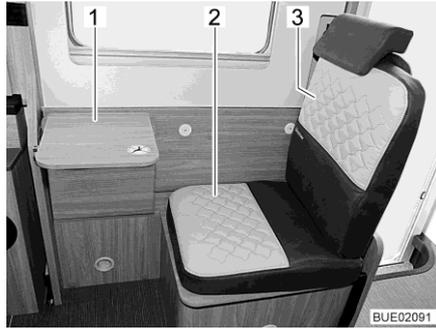
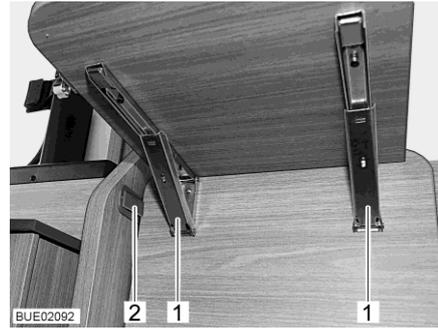

Fig. 27 Additional seat with folding table
Fig. 28 Catches on the folding table
- Attach the included seat cushion (Fig. 27,2) and the back cushion (Fig. 27,3).
- Swing the divan's front part upwards until it engages in the plastic catch (Fig. 28,2).
- Folding the table top away: Unlock both catches (Fig. 28,1) and swing table top (Fig. 27,1) downwards.